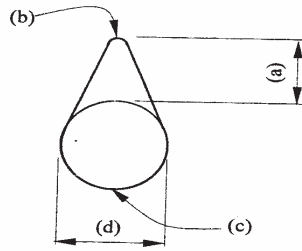

Figure 2
- 5 (a) Name parts (a),(b), (c) and (d) of the camlobe shown in figure 2. (2 marks)